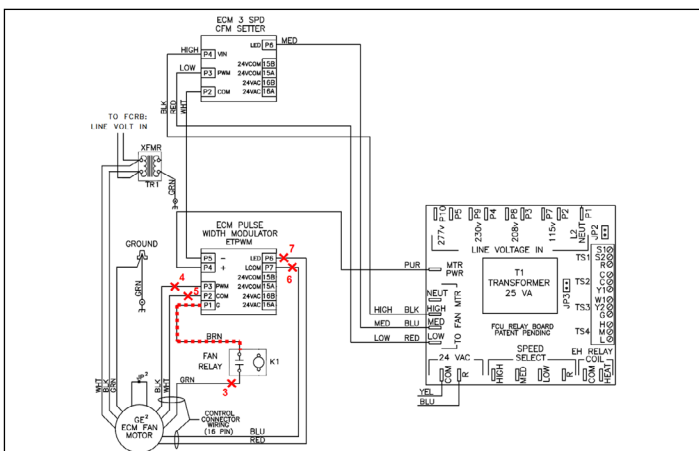

Figure 3 – Remove Motor Signal Wires
REMOVE MOTOR SIGNAL WIRES (SEE FIGURE 3)
- Remove wire between P1 and fan relay (K1) contact and discard (BRN in Figure 3, but color may vary depending on unit).
- Remove wires between P1 on both PWM boards and fan relay (K1) contact and discard (BRN in Figure 3, but color may vary depending on unit). The fan relay contacts will not be used with the Select PWM board.